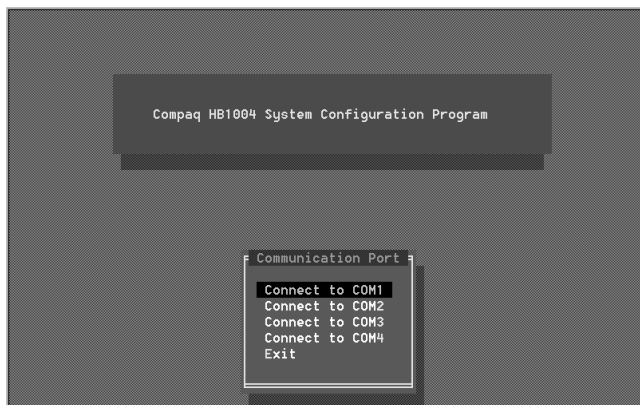

Figure 3-3 Communication Port Dialog Box
3. Press **ENTER** and the program will start by opening the communication dialog box shown in Figure 3-3.
4. Click the **O**K button to open the program and display the communication dialog box shown in Figure 3-3.
5. Click the **O**K button to open the program and display the communication dialog box shown in Figure 3-3.